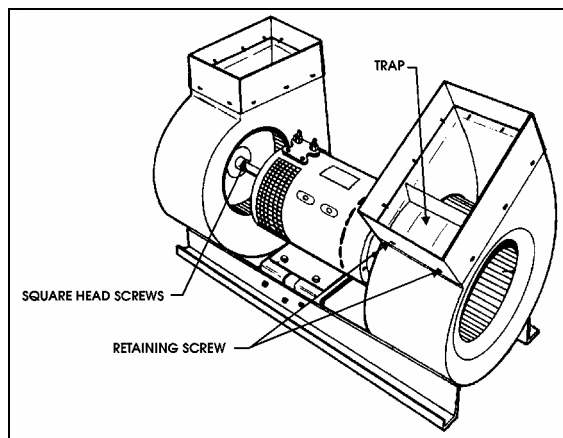

FIGURE 19: EVAPORATOR MOTOR ASSEMBLY 22036
7. From under the vehicle, remove the eight bolts retaining the evaporator fan motor support. Remove the complete unit from the HVAC compartment (Fig. 19).